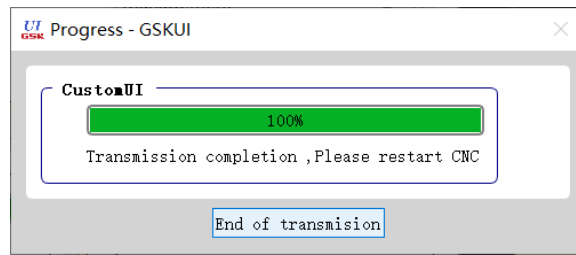

Fig. 1-90
(19) The progress bar of the file transfer process is shown in Figure 1-90.